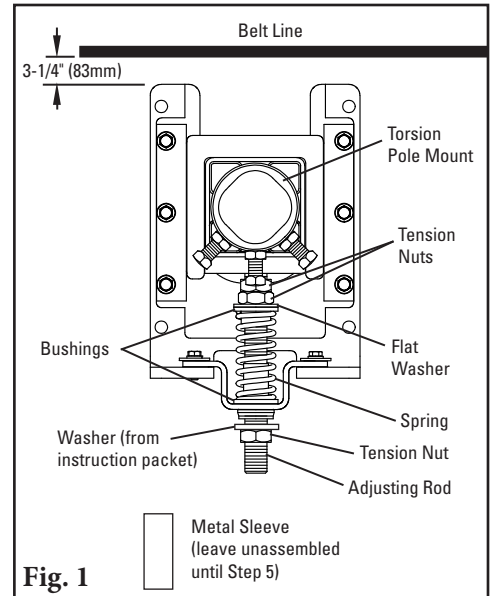

Fig. 1
- 1. Reconfigure the standard pull-up tensioner to the push-up style.** Remove the 3 tension nuts, flat washer, 2 bushings, spring, sleeve and hat bracket; reassemble (Fig. 1) with 2 tension nuts, flat washer, 2 bushings, spring and hat bracket on upper end of adjusting rod. Add the washer (from instruction packet) and third tension nut to bottom of adjusting rod.
1. **Disassemble guide kit.** Remove nuts and washers from both sides of tensioner (Fig. 1).